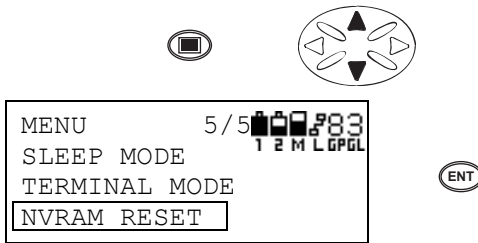

Figure 3-150. Initiate Menu Mode, Scroll to NVRAM Reset, Press Enter
1. Press the **menu** key to enter the menu mode. Press the **up/down cursor key** to select NVRAM RESET and press **ENT** (Figure 3-150).